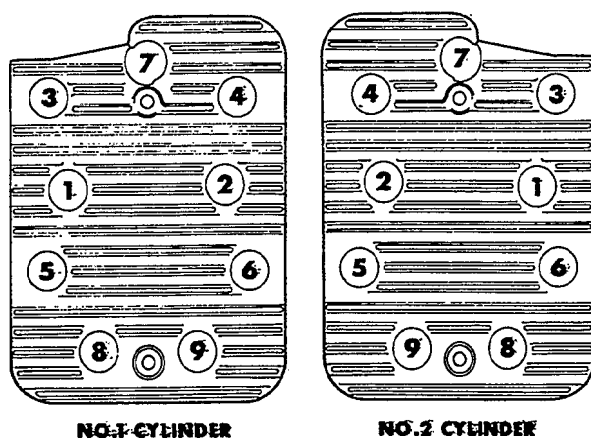

FIGURE 45. CYLINDER HEAD TORQUE SEQUENCE
4. Place heads in position and follow head torque tightening sequence shown in Figure 45. Start out tightening all bolts to 5 ft - lb, then 10 ft - lb, etc., until all bolts are torqued 14 to 16 ft - lb.